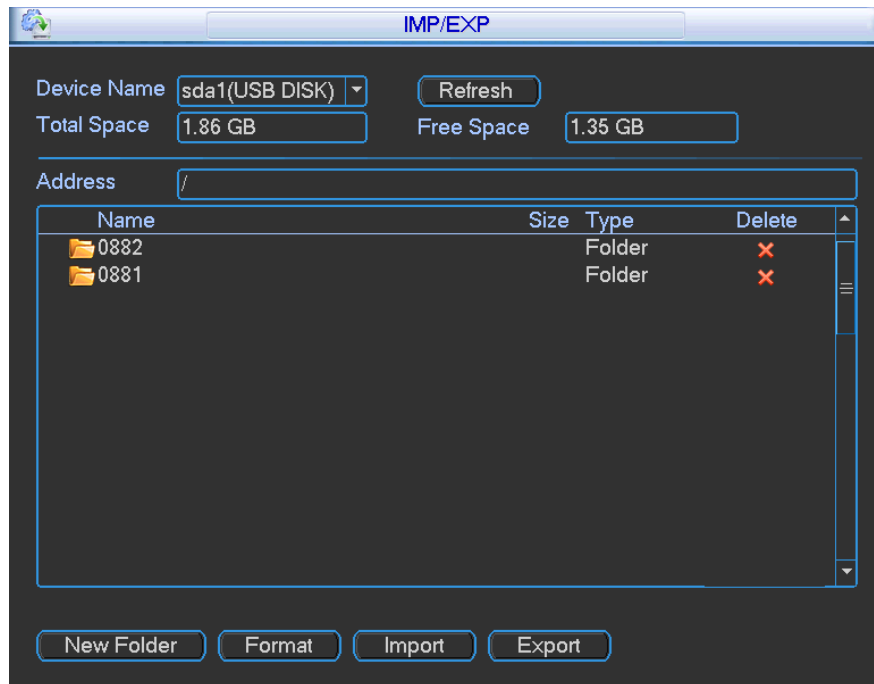

Figure 4-110
- Step 1 From Main menu->Advanced->Import/Export, Enter import/export interface. See Figure 4-110.